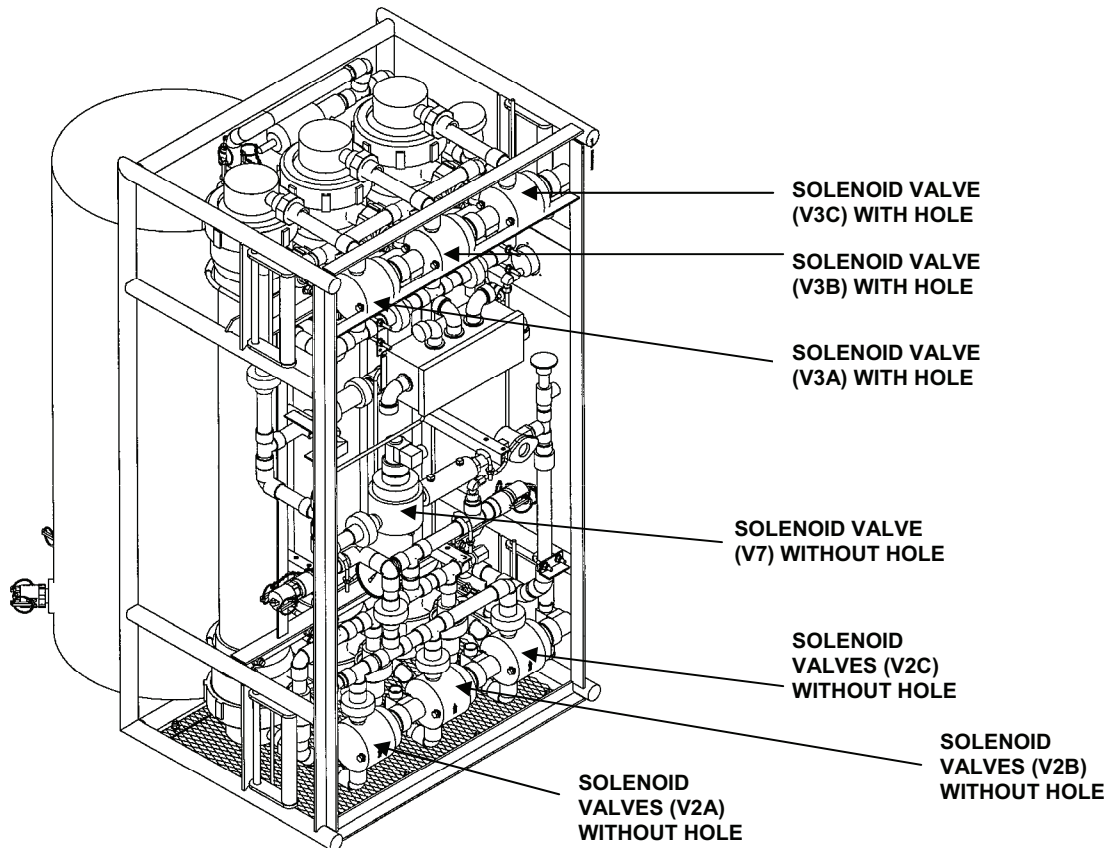

Figure 1. Ultrafiltration Module.
1. Determine solenoid valve to be replaced. See (WP 0055 through WP 0061). See Figure 1.